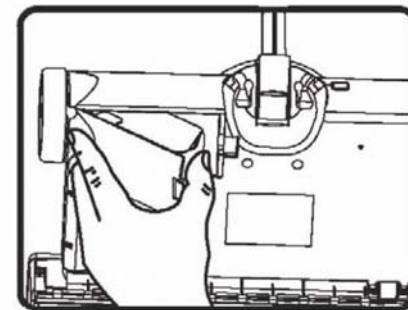

Fig. 18
3. Push in locking tab and lift off battery assembly. (Fig. 18)